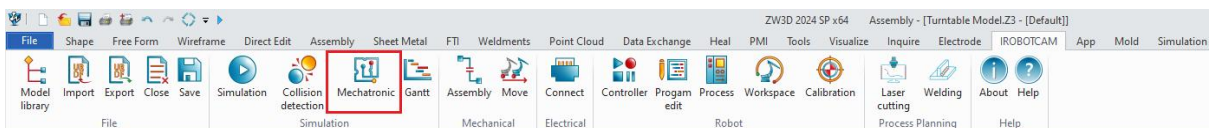

Figure 13-5: Mechatronic button
- In the "IROBOTCAM" tab, click the "Mechatronic" button.(Figure 13-5)